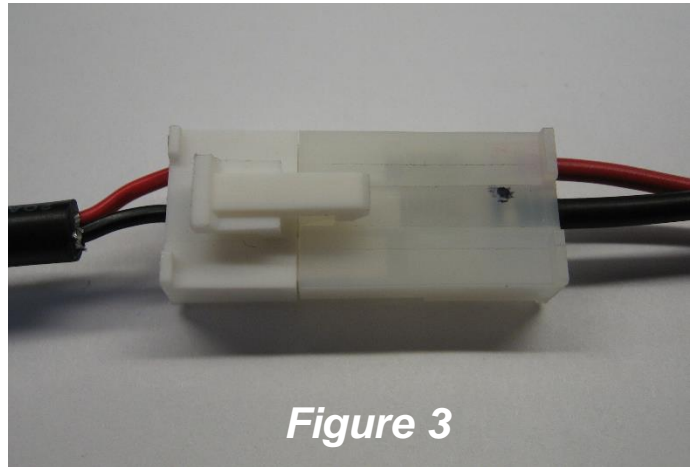

Figure 3
- 6) Insert the three holed connector of the DC-DC converter into the connector of the harness (shown in *Figure 3*).